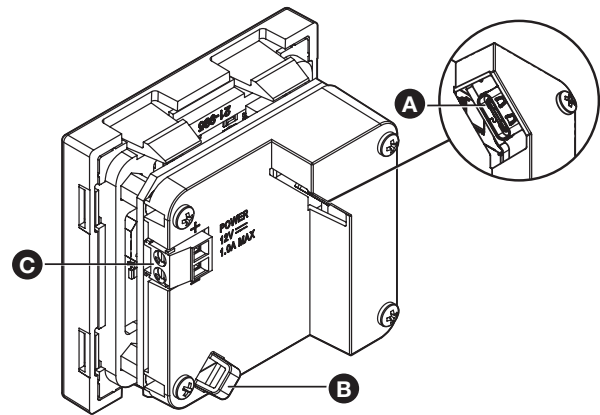

Figure 2. RCP 401 Rear Panel
The back panel features of the RCP 401 EU and RCP 401 MK are identical (see figure 2).
3. Remove the power cable (figure 2, A) on page 2) and the USB cable (B). If necessary, cut the zip tie securing the USB cable to the cable anchor (C).